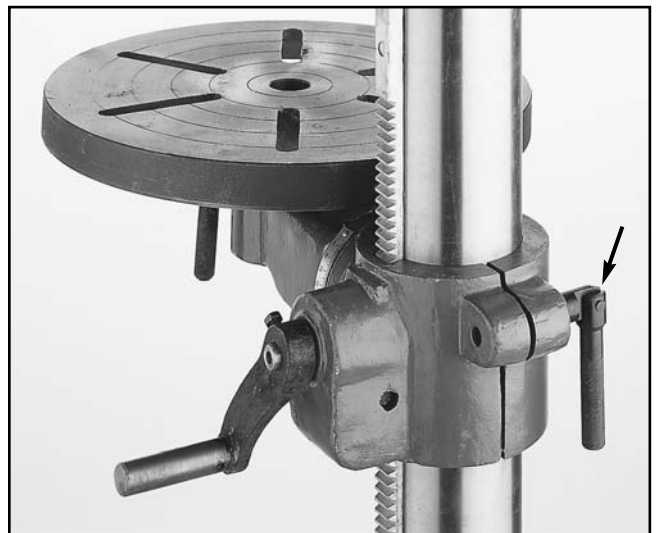

Figure 9.
4. Screw the three handle bars into the tapped holes in the handle body. **Figure 9.**
5. Thread the column lock handle into the column bracket. Leave the lock handle loose for now. **Figure 9.**